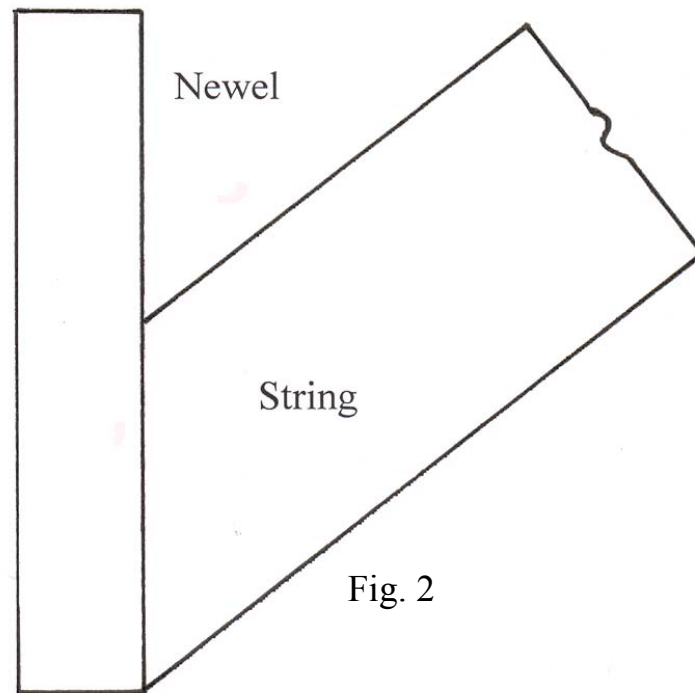

Fig. 2
- Figure 2 shows a side elevation of a newel post and string. Illustrate on the drawing to indicate how the string is jointed to the newel post.